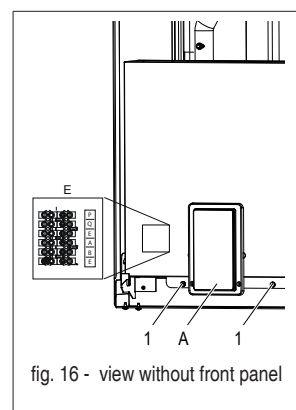

fig. 16 - view without front panel
- loosen the two screws (detail 1 - fig. 16) under the electric box
**A** Display panel and keyboard (fig. 16)
The terminal block (detail B fig. 16) is located on the left side of the boiler electric box. The terminal block is a male-female connector strip. There is an identification label of the 6 terminals available on the side of the terminal block.